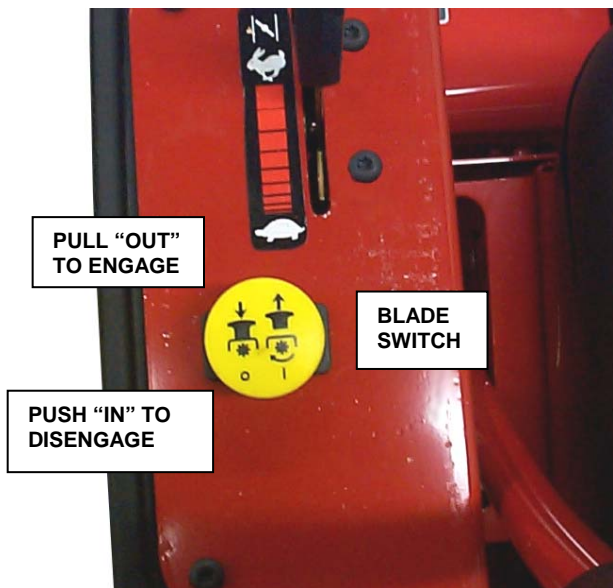

FIGURE 2.2
**2.1.4.** Check Blade switch to insure it works freely. Switch is pulled "OUT" into the "ON" position for blade engagement or pushed back "IN" into the "OFF" position for blade disengagement. See Figure 2.2. IMPORTANT: Blade rotation must stop in 5 seconds or less after moving blade switch to "OFF". Refer to Section "Blade Brake Adjustment".